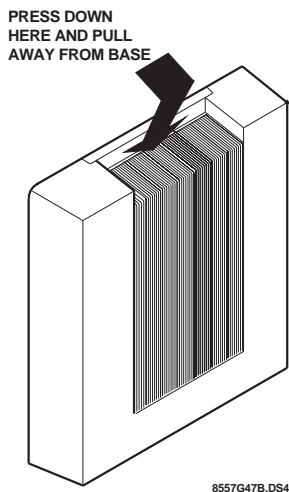

Figure 4. Removing the Cover
2. Remove the HIM cover and set it aside (Figure 4).
2. Remove and discard the HIM cover (Figure 4).